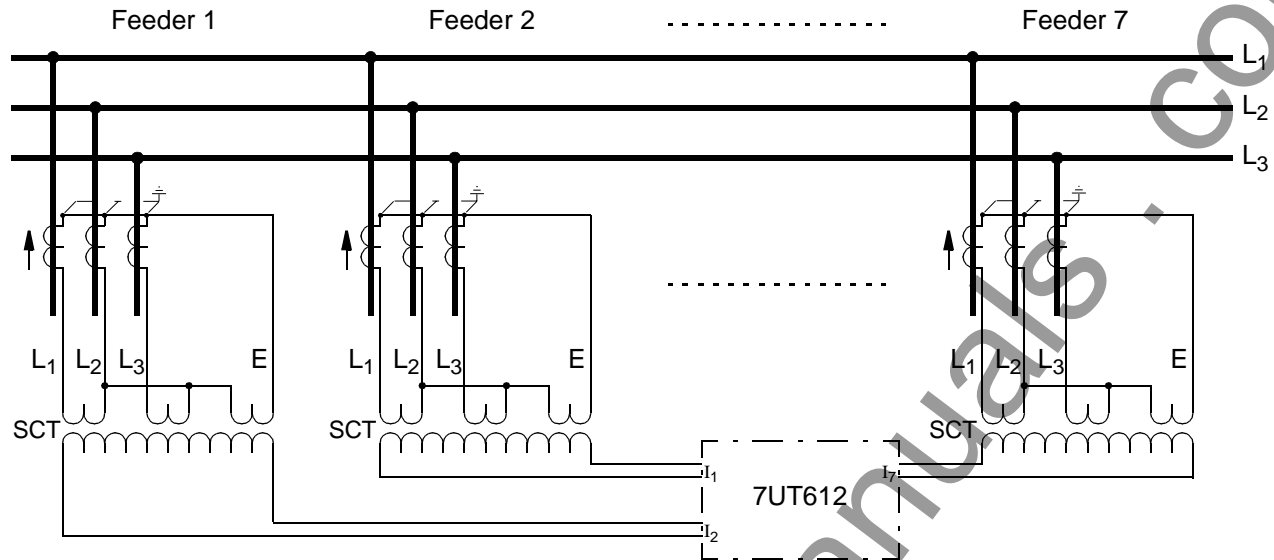

Figure 2-29 Busbar protection with connection via summation current transformers (SCT)
2. The phase currents of each feeder are summarized into a single-phase summation current (Figure 2-29). These currents are fed to one 7UT612.
One single device 7UT612 is sufficient for a busbar with up to 7 feeders if the device is connected via summation current transformers. The phase currents of each feeder are converted into single-phase current by means of the summation CTs (Figure 2-29). Current summation is unsymmetrical; thus, different sensitivity is valid for different type of fault.